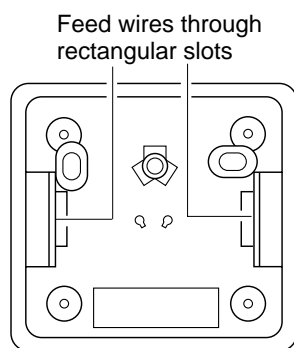

Figure 34 - Back View of Thermostat Base
5. Feed the electrical wires through the rectangular slots on each side of the base (see Figure 34, page 17).